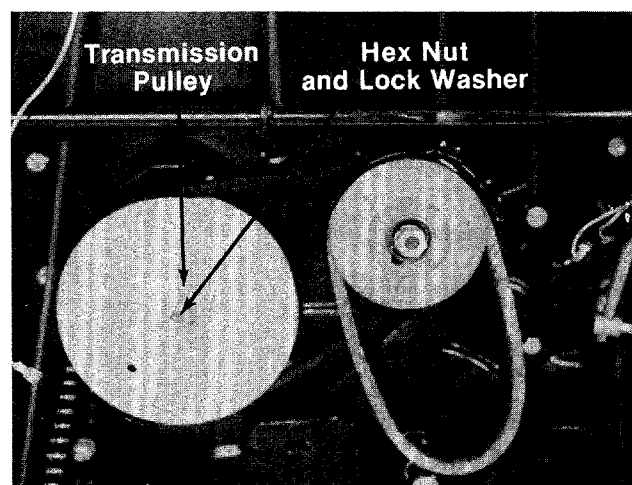

FIGURE 42.
3. Release the clutch pedal. Remove the transmission pulley by removing the hex nut and lock washer shown in figure 42. When sliding transmission pulley off shaft, be careful not to lose the key.